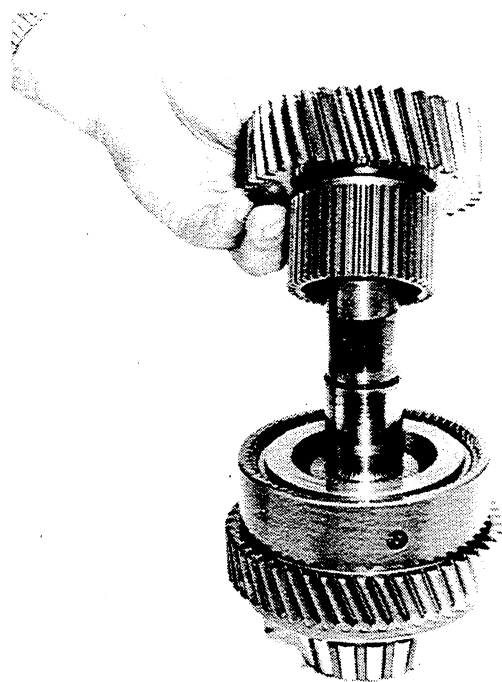

Figure 8-4. *Removing or Installing the Front Thrust Bearing, Spacer and Washer from the Reverse Clutch Shaft.*
6. Remove steel thrust washers (Figure 12-3, 12 and 14) and needle thrust bearing (13). See Figure 8-4.
8. Install thrust washer (Figure 12-3, 12), needle thrust bearing (13), and thrust washer (14) in that order. See Figure 8-4.